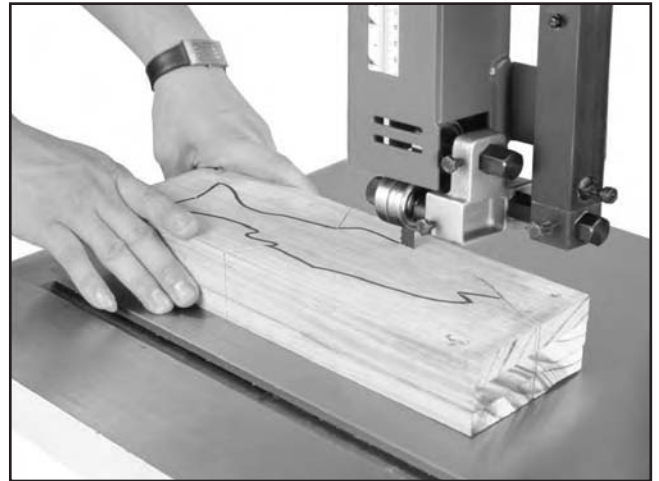

Figure 36. Cutting multiple pieces at once.
5. Cut the stack of pieces as though you were cutting a single piece. Follow your layout line with the blade kerf on the waste side of your line as shown in **Figure 36**.